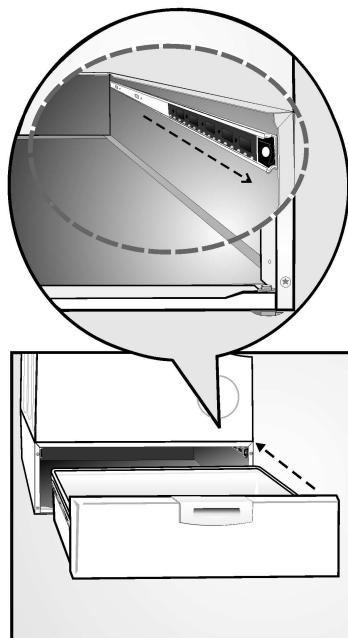

Figure 18
5. Slide the ball bearing rails on the pedestal side to the front (see **Figure 18**).